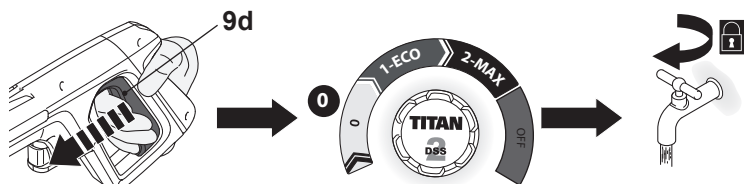

Fig. 22
1. Release the trigger (9d) (Fig. 22).